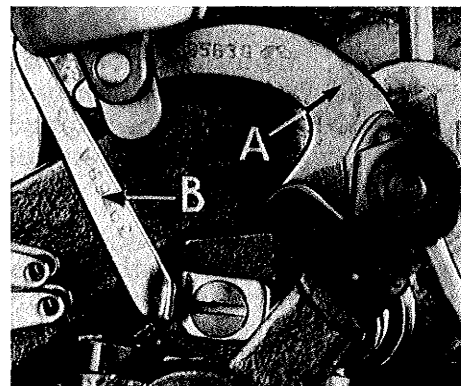

Fig. 5
If needle thread cam pull-off (A, Fig. 5) overlaps looper thread pull-off (B), separate by moving looper thread pull-off back. When retightening looper pull-off screw, be sure to take up end play in needle driving arm.